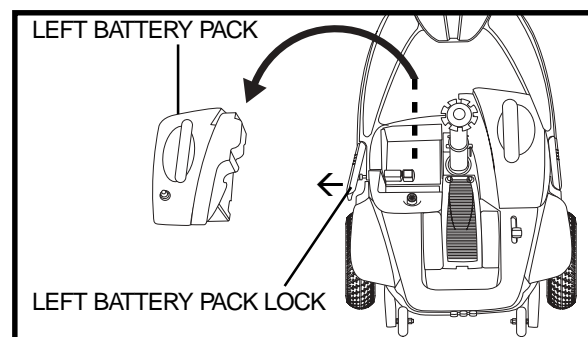

Figure 15. Battery Pack Removal/Installation
4. Disengage the left battery pack lock by pulling it outward from the scooter. See figure 15.
5. Remove the left battery pack by lifting it straight up and away from the scooter. See figure 15.